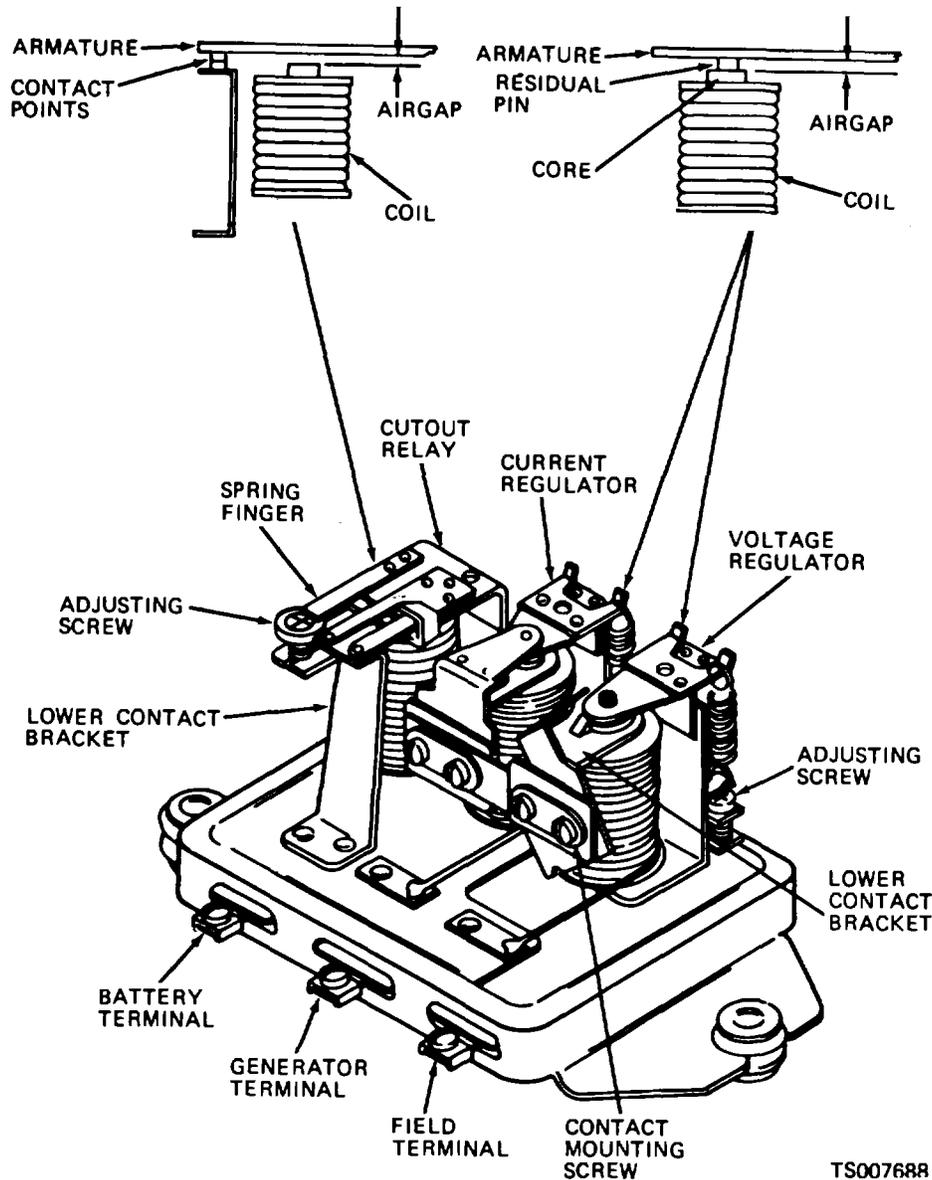

Figure 4-15. Voltage Regulator, Cover Removed
a. Testing and Adjustment. Figure 4-15 illustrates the voltage regulator with the cover removed to identify the internal parts of the regulator.